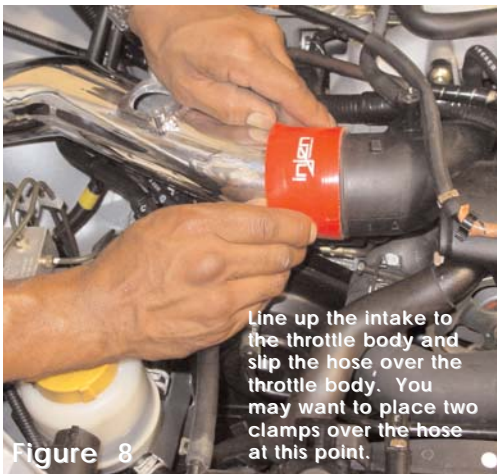
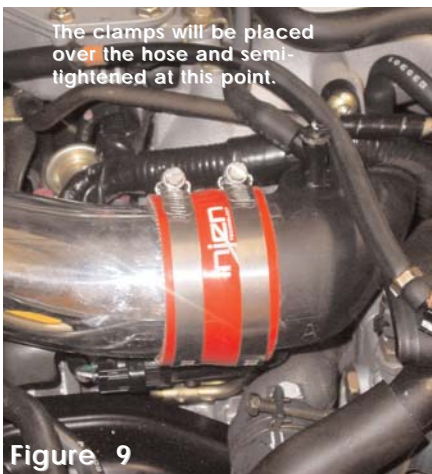

Figure 8
Figure 9
- 8- Line up the throttle body end of the intake to the turbo inlet and slide the 2 7/8" hose over to the turbo inlet. (See fig. 8) Tighten the clamp on the intake end and semi-tighten the clamp on the turbo inlet side at this point. (See fig. 9)